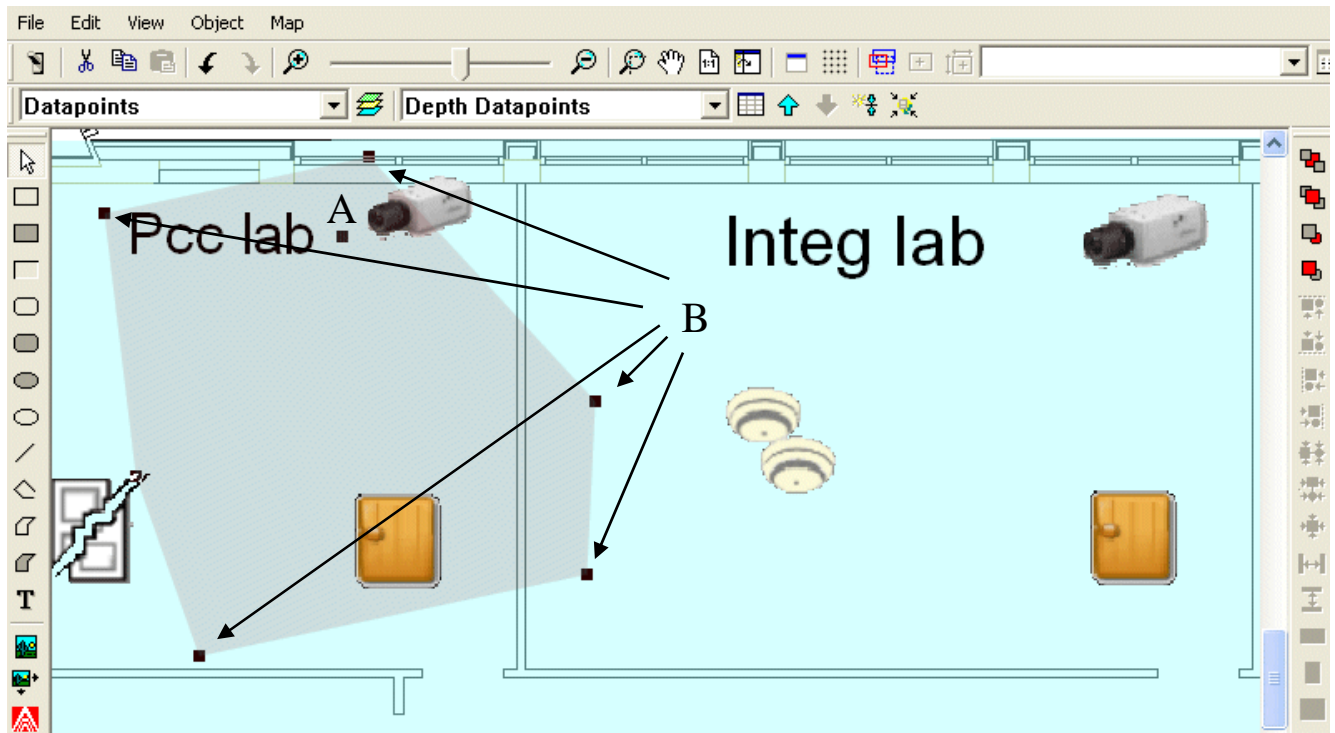

Fig. 12 Area controls
A polygon appears indicating the camera coverage area. (See Fig. 12.)
3. Use the interior squared dot of the polygon to move and orient the coverage area. (See "A" in Fig. 12.)
4. Use the peripheral squared dots to shape the polygon to represent the actual camera view. (See "B" in Fig. 12.)